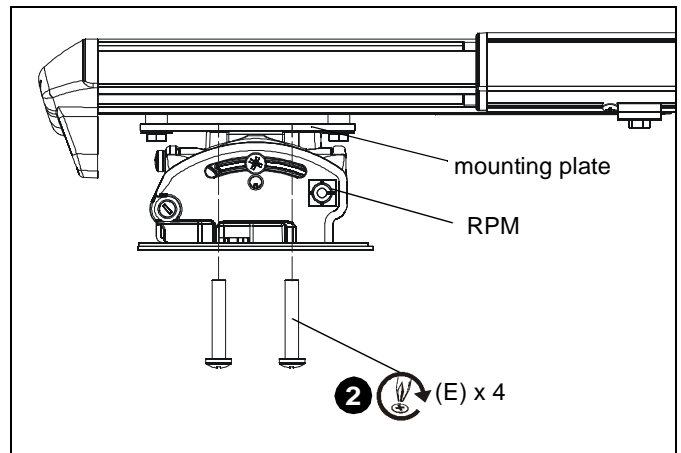

Figure 14
2. Install four 1/4-20 x 1 1/2" Phillips pan machine screws (E) through RPM holes and into projector mounting plate. (See Figure 14)